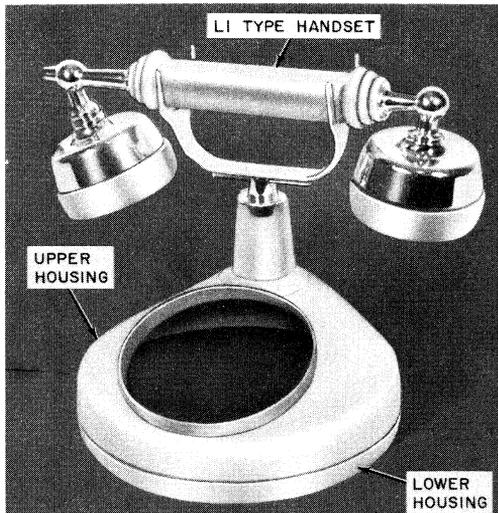

Fig. 2—Customer-Owned Components 940A or 940B Telephone Set
**2.01** The 940A, 940B, and 940C rotary dial equipped telephone sets are new DESIGN LINE telephone sets being made available to the customer. The customer buys the housing, handset, and decorative features from the telephone company and the telephone company retains ownership of the transmission and signaling components which are mounted on a removable base and incorporated in the handset (Fig. 2, 3, and 4).